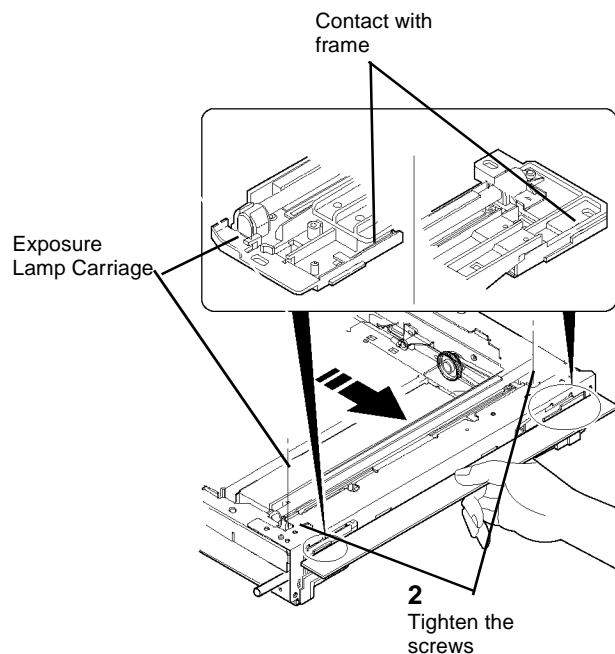

Figure 7 Aligning the Half-Rate Carriage
7. (Figure 7): With the Half-Rate Carriage against the Positioning Brackets, move the Exposure Lamp Carriage into contact with the frame and tighten the mounting screws.